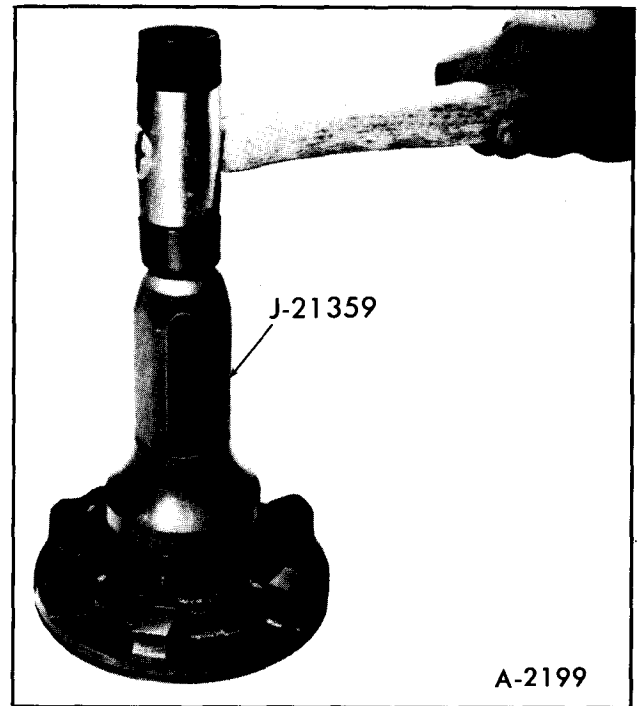

Figure 90—Installing Pump Front Seal
1. If necessary, install a new front seal, using Pump Oil Seal Installer, J-21359, to drive seal into place. Use a non-hardening sealer on outside of seal before installing into pump, Figure 90.